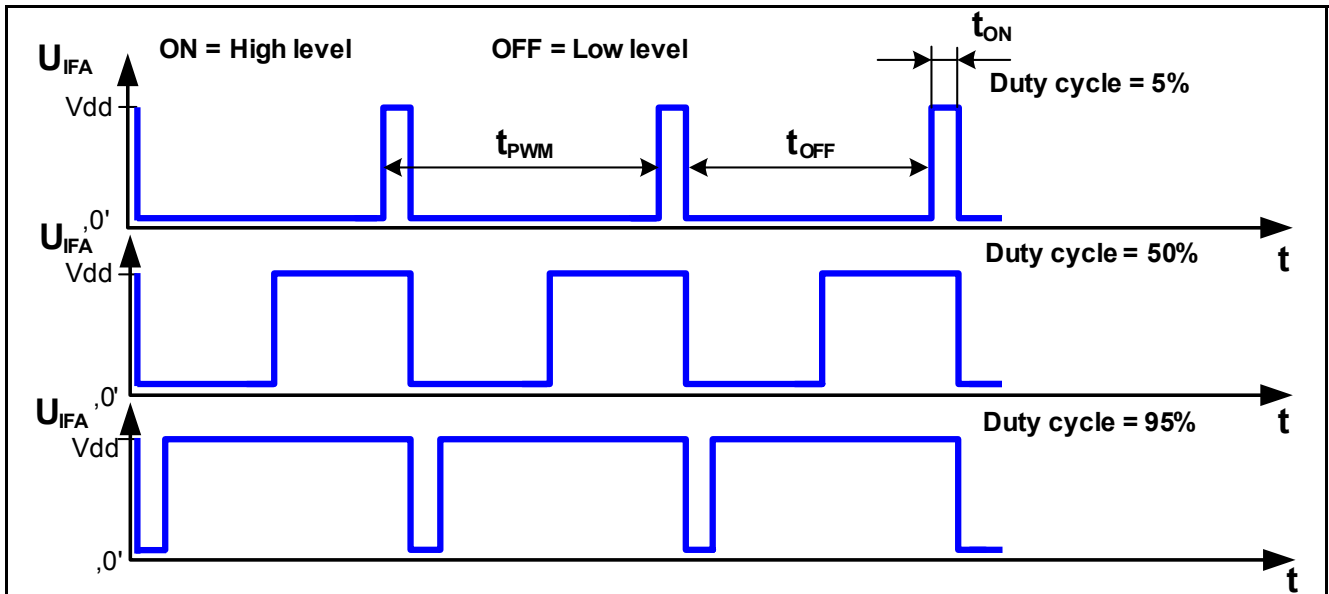

Figure 21 Typical Example for a PWM Signal
**Figure 21** shows the principle behavior of a PWM with different duty cycles and the definition of timing values. The duty cycle of a PWM is defined by following general formulas: